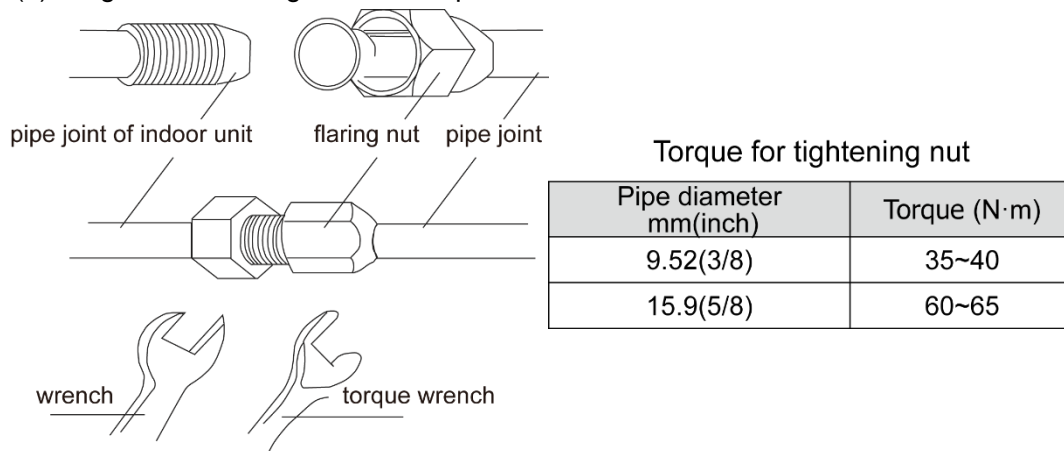

Fig.4.2
- (1) Aim the flaring port of copper pipe at the center of screwed joint and then tighten the flaring nut with hand as shown in fig 4.2.
- (2) Tighten the flaring nut with torque wrench.